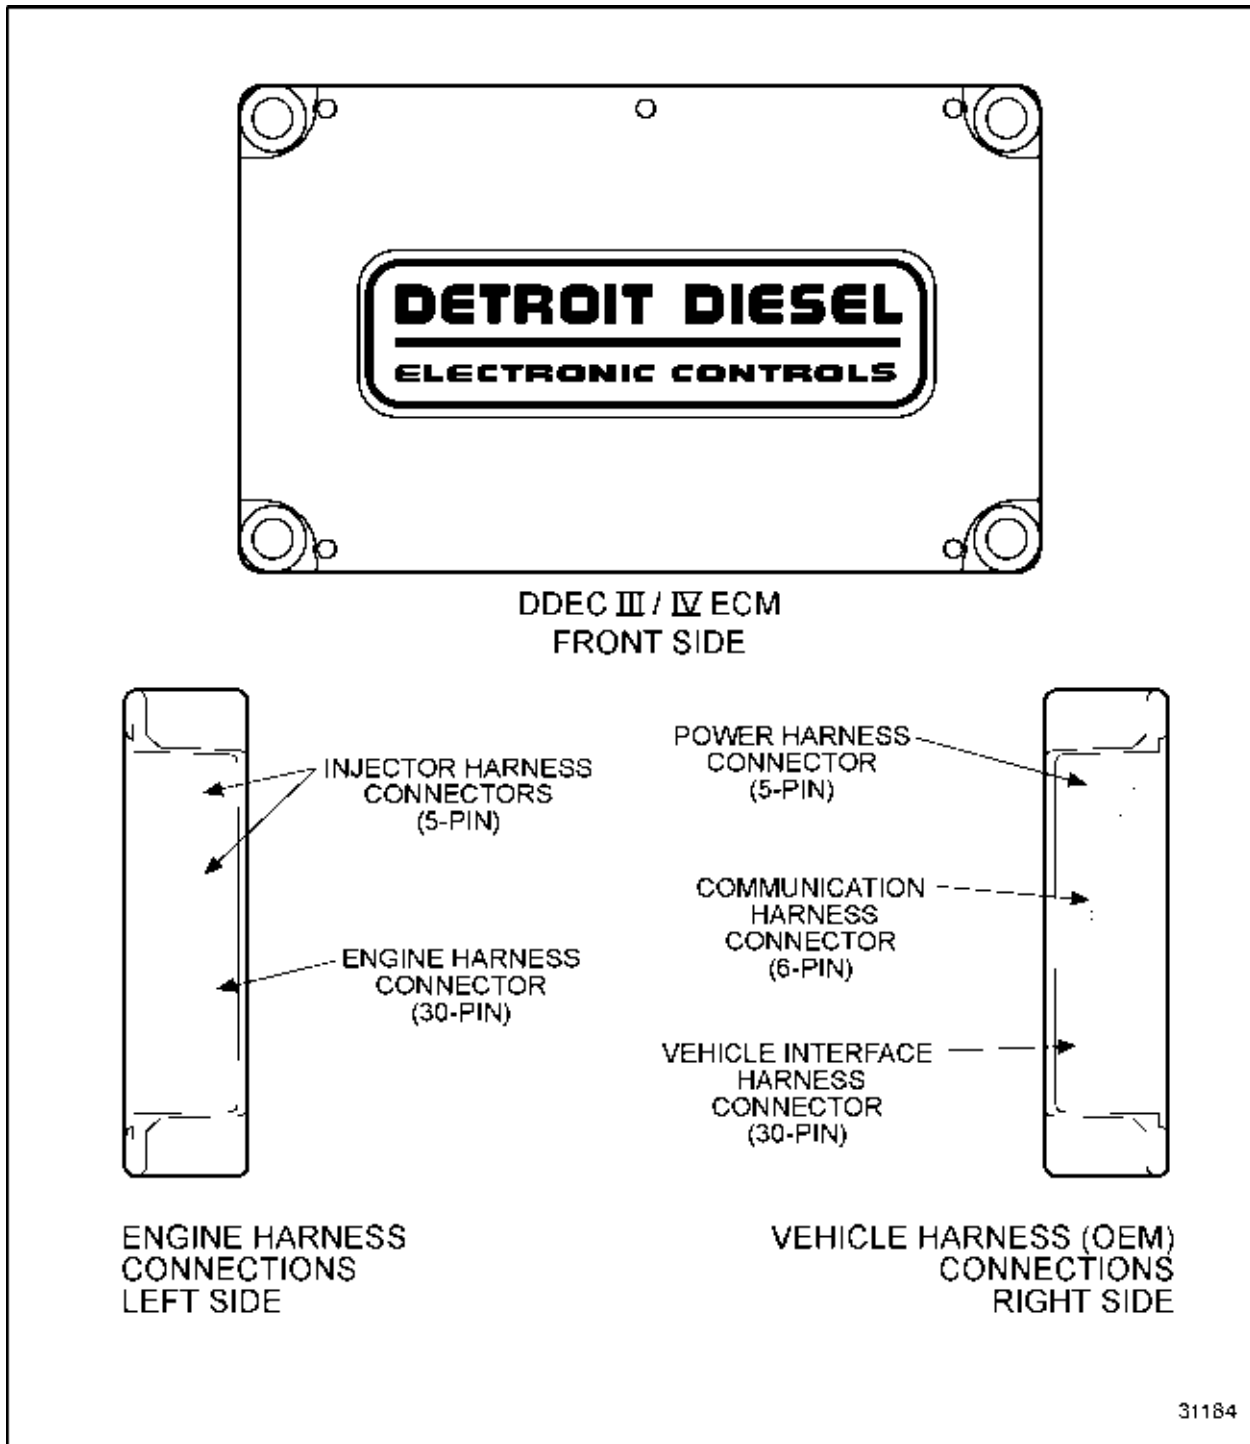

Figure E-1 DDEC IV ECM Front Side View
- DDEC IV ECM Front Side View - see Figure E-1